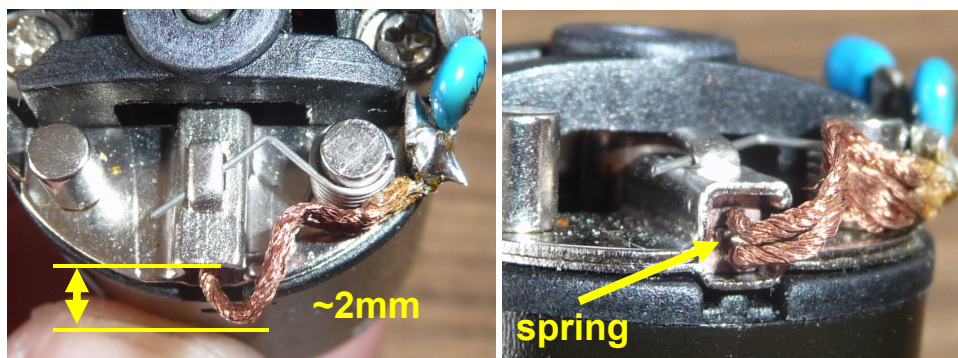

Figure 12 – brush cables “positioning” – make a bow
- Care must be taken with regards to the positioning of the brushes cables, these need to be as shown in Figure 12 to enable free brush movement, essential for reliable motor operation.